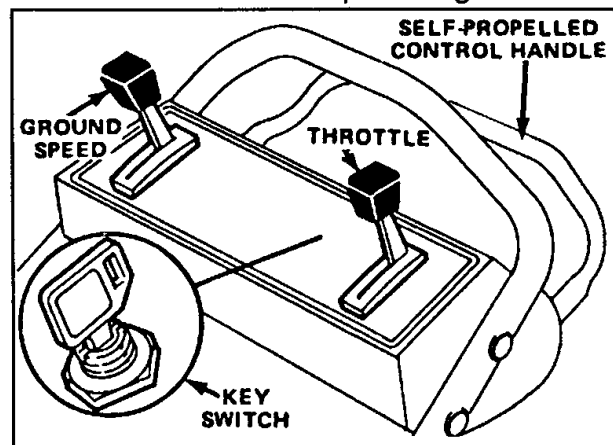
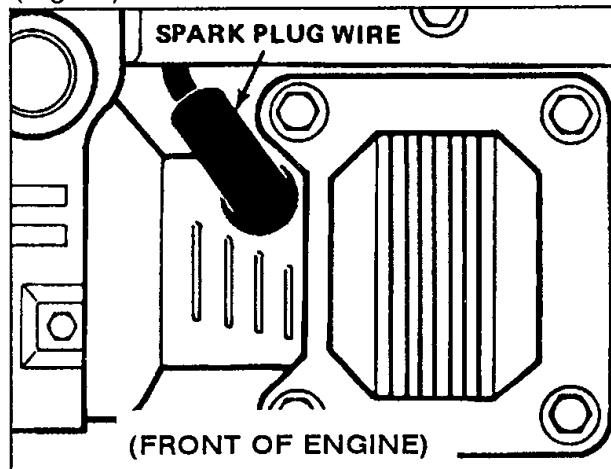
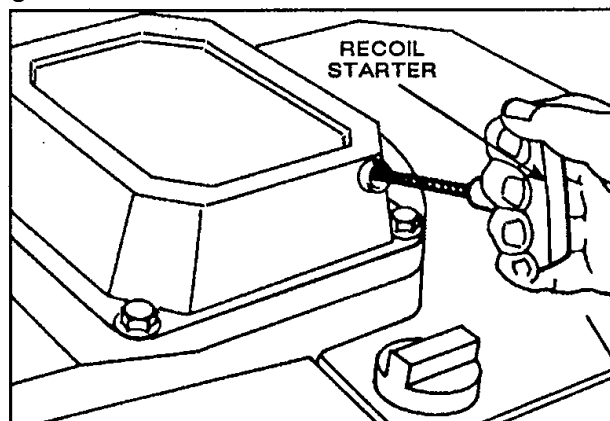

Figure 7
Figure 8
Figure 9
1. CONTROLS—Key switch (Model 26624 only), throttle, ground speed control, and blade/self-propelled control bar are on upper handle (Fig. 7). Recoil starter is on top of engine.
2. Push spark plug wire onto spark plug (Fig. 8).
3. Move ground speed control to "N" (Fig. 7).
4. KEY-ELECTRIC STARTING (Model 26624 only)—Move throttle (Fig. 7) to CHOKE. Turn key (Fig. 7) to START and release when engine begins running. Regulate throttle as desired. If the battery's charge is too weak to start the engine, the engine can be started with the recoil starter (Fig. 9).
5. MANUAL STARTING (Model 26622)—Move throttle to CHOKE. Brace yourself and mower securely by placing your foot on the top left side of mower housing where it says "PLACE FOOT HERE WHEN STARTING". Pull engine mounted recoil starter out until positive engagement results; then pull vigorously to start the engine (Fig. 9). Regulate throttle as desired when engine starts.
6. GROUND SPEED (Fig. 7)—Move ground speed control to desired set-
8. STOPPING (Fig. 7)—Release control bar to stop blade and traction drive. Move ground speed control to "N". To stop engine, move throttle to OFF. Remove key from switch on electric start model or pull wire off spark plug if mower is unattended or not used (Fig. 8).
2. Move throttle control to FAST (Fig. 7).